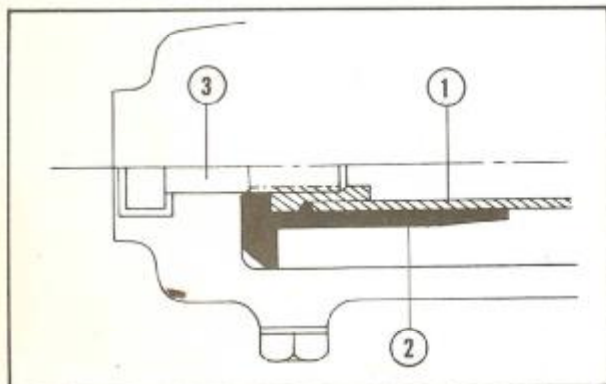

Fig. 4-6 ① Fork piston
1. Apply locking sealant to the threads of the 8 mm Allen head screw. Install the oil lock piece and fork piston and tighten with the Allen head screw as shown in Fig. 4-6.